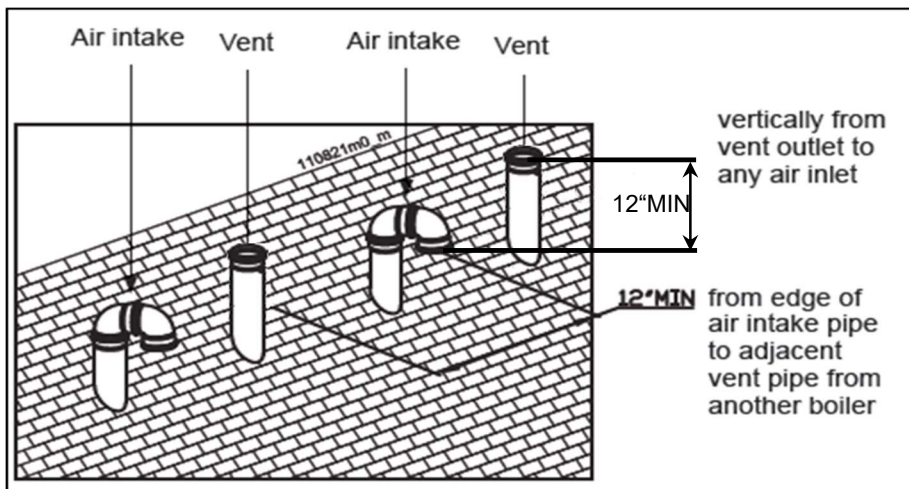

Figure 10.24
- Place roof penetrations to obtain minimum clearance of 12 inches (305 mm) between outside edge of air intake and exhaust vent of another boiler for U.S. installations (see Figure 10.24). For Canadian installations, provide clearances required by the latest edition of the CAN/CSA B149.1 Natural Gas and Propane Installation Code.
NOTICE	<p>Do not allow insulation or other materials to accumulate inside the pipe assembly when installing through the hole.                      Ensure termination height is above the roof surface or anticipated snow level (a minimum of 12 inches (305 mm) in U.S.A. or 18 inches (457 mm) in Canada) as shown in Figure 10.24.</p>